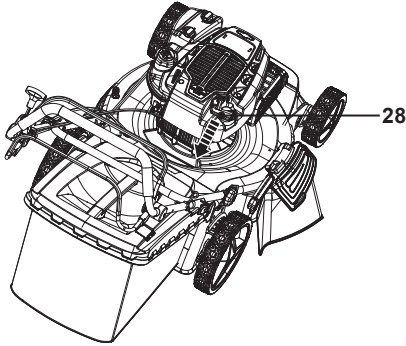

Fig. 13
2. Pull the recoil starter handle (31) lightly until you feel resistance then pull it rapidly. Do it repeatedly until the engine starts (Fig. 13).